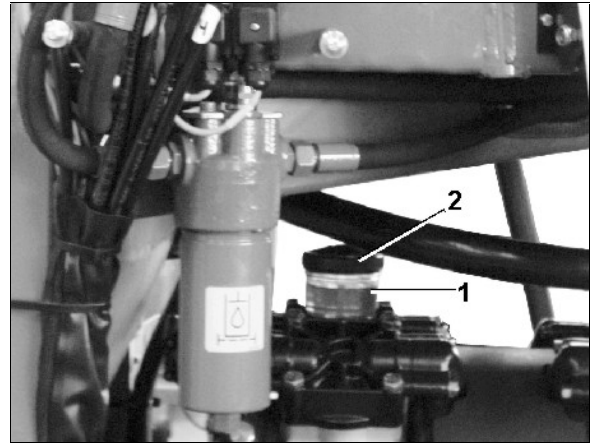

Fig. 119
1. Check whether the oil level at the mark (Fig. 119/1) is visible with running pump in horizontal position.
2. Remove the lid (Fig. 119/2) and top up oil if the oil is not visible at the mark (Fig. 119/1).
2. Take off the lid (Fig. 119/2).
5. Turn the drive shaft alternating to the right- and left hand side and slowly fill in new oil. The correct oil quantity has been filled in when the oil is visible on the markings (Fig. 119/1).